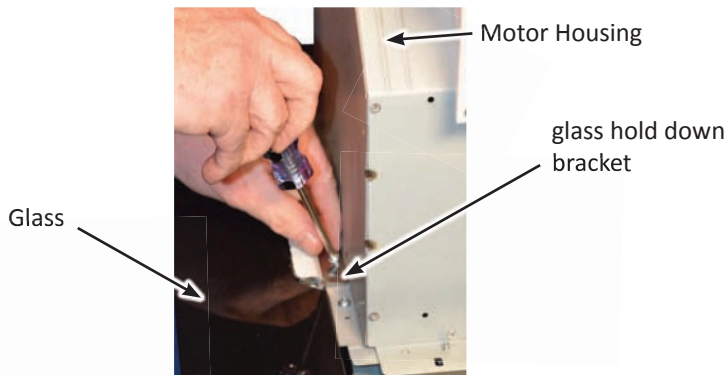

Figure 1
4. Remove (4) T20 Torx screws that secure glass hold down brackets (2) screws on either side of the motor housing base, see figure 1.